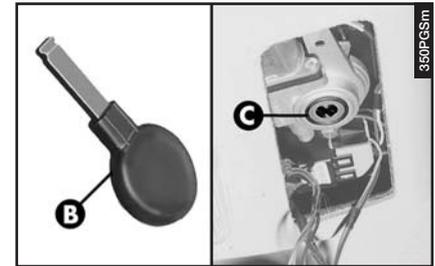

fig. 133
– Using the special key (**B-fig. 133**) provided in the tool bag rotate bushing (**C-fig. 133**) of the motor to move the sunroof.